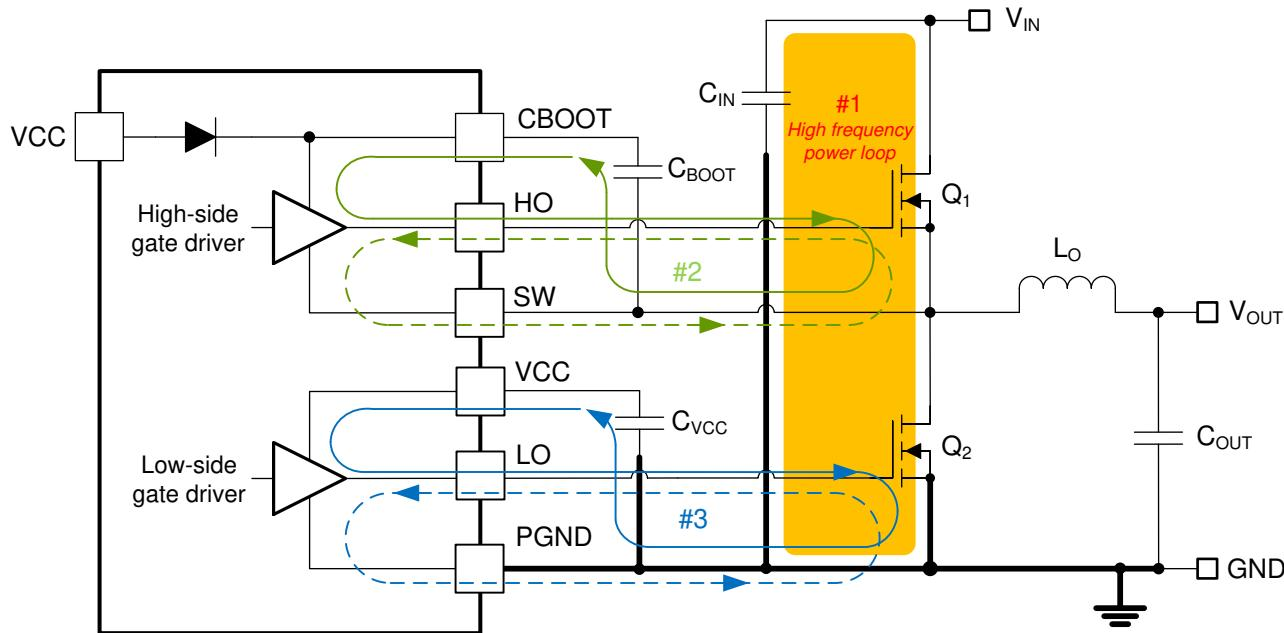

Figure 9-46. DC/DC Regulator Ground System With Power Stage and Gate Drive Circuit Switching Loops
Proper PCB design and layout is important in a high-current, fast-switching circuit (with high current and voltage slew rates) to achieve a robust and reliable design. As expected, certain issues must be considered before designing a PCB layout using the LM5148. The high-frequency power loop of a buck regulator power stage is denoted by loop 1 in the shaded area of Figure 9-46. The topological architecture of a buck regulator means that particularly high di/dt current flows in the components of loop 1, and it becomes mandatory to reduce the parasitic inductance of this loop by minimizing its effective loop area. Also important are the gate drive loops of the high-side and low-side MOSFETs, denoted by 2 and 3, respectively, in Figure 9-46.
- Loop 1: The most important loop area to minimize is the path from the input capacitor or capacitors through the high- and low-side MOSFETs, and back to the capacitor or capacitors through the ground connection. Connect the input capacitor or capacitors negative terminal close to the source of the low-side MOSFET (at ground). Similarly, connect the input capacitor or capacitors positive terminal close to the drain of the high-side MOSFET (at VIN). Refer to loop 1 of Figure 9-46.
- The SW pin connects to the switch node of the power conversion stage and acts as the return path for the high-side gate driver. The parasitic inductance inherent to loop 1 in Figure 9-46 and the output capacitance (C_{oss}) of both power MOSFETs form a resonant circuit that induces high frequency (greater than 50 MHz) ringing at the SW node. The voltage peak of this ringing, if not controlled, can be significantly higher than the input voltage. Make sure that the peak ringing amplitude does not exceed the absolute maximum rating limit for the SW pin. In many cases, a series resistor and capacitor snubber network connected from the SW node to GND damps the ringing and decreases the peak amplitude. Provide provisions for snubber network
- Loop 2: high-side MOSFET, Q_1 . During the high-side MOSFET turnon, high current flows from the bootstrap (boot) capacitor through the gate driver and high-side MOSFET, and back to the negative terminal of the boot capacitor through the SW connection. Conversely, to turn off the high-side MOSFET, high current flows from the gate of the high-side MOSFET through the gate driver and SW, and back to the source of the high-side MOSFET through the SW trace. Refer to loop 2 of Figure 9-46.
- Loop 3: low-side MOSFET, Q_2 . During the low-side MOSFET turnon, high current flows from the VCC decoupling capacitor through the gate driver and low-side MOSFET, and back to the negative terminal of the capacitor through ground. Conversely, to turn off the low-side MOSFET, high current flows from the gate of the low-side MOSFET through the gate driver and GND, and back to the source of the low-side MOSFET through ground. Refer to loop 3 of Figure 9-46.